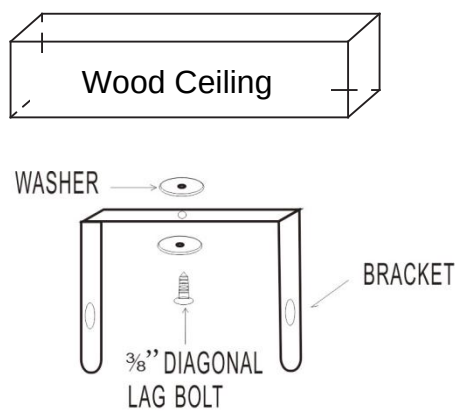
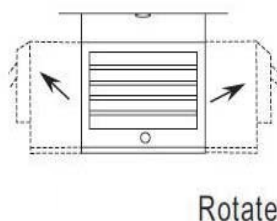

Figure 3a-single-Screw Mounting
Figure 5
Refer to Figures 3a and 3b.
NOTE: If you want to swivel the heater either to the right or left adding a washer to both sides of the bracket is recommended. A longer lag bolt may be required to properly secure the unit. See Figure 3a.
1. To turn the unit horizontally when it has been installed with a single lag bolt (as shown in figure 3a), simply turn the entire heater as needed. (as shown in figure 5 – rotate). The unit cannot be turned horizontally if it has been installed with 2 lag bolts.